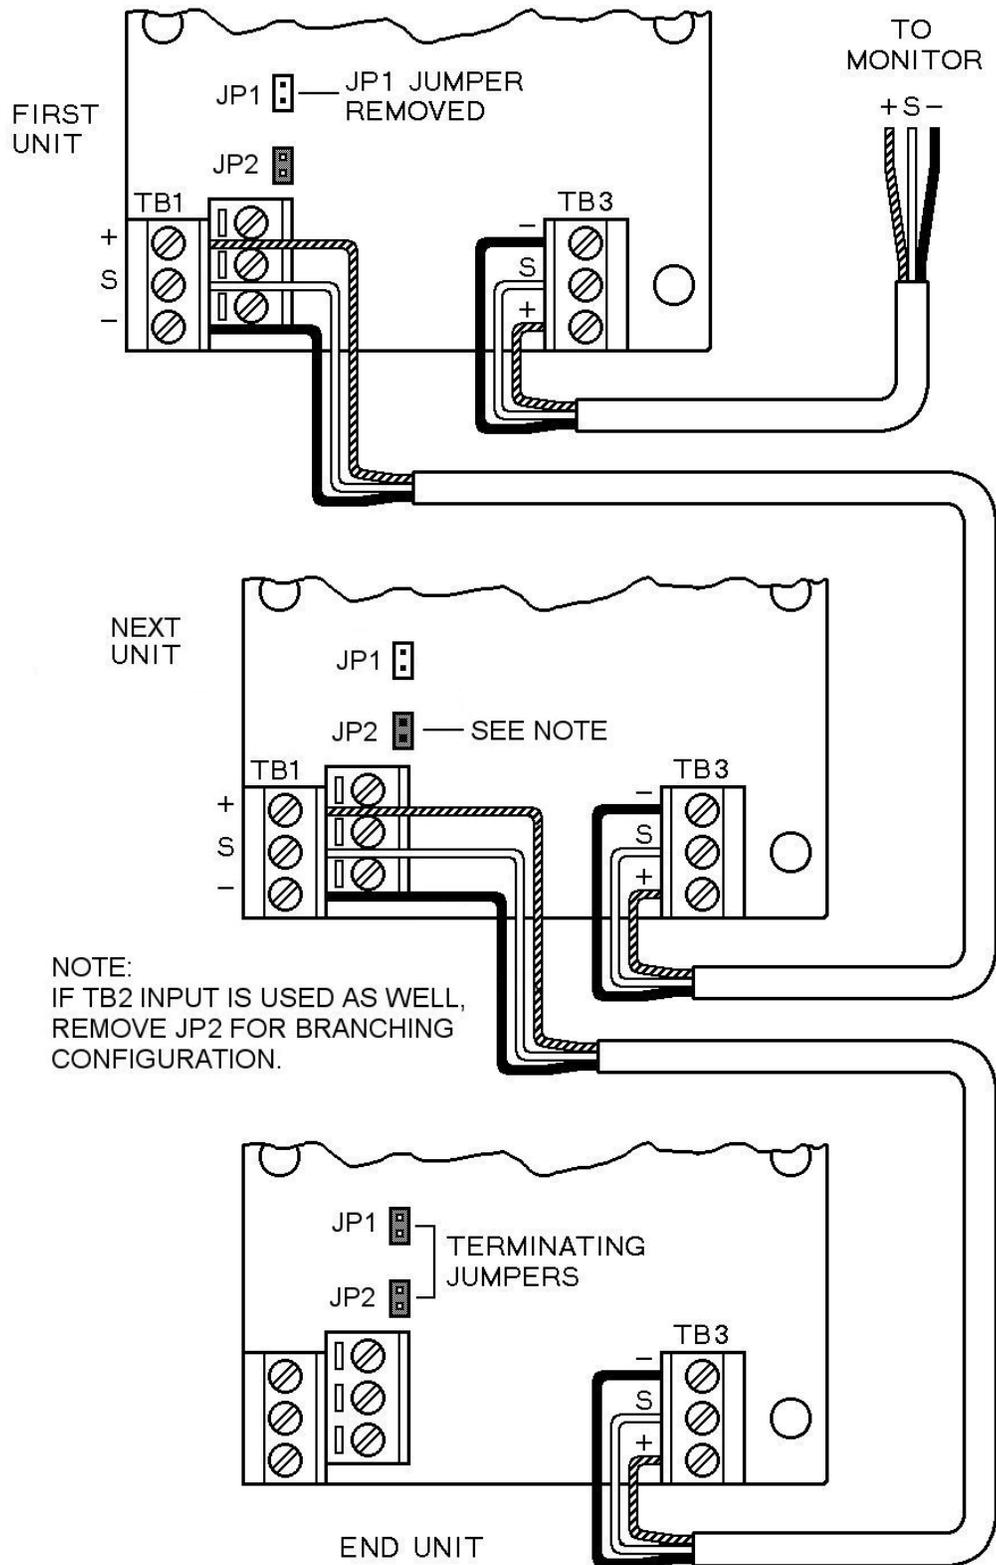

FIGURE 2: Detail wiring of sensor modules.
The AMC-1228 sensor unit provides continuous, reliable surveillance of surrounding air for traces of hazardous gases (listed in section 2.2 FACTORY CALIBRATION, page 4). This unit is designed to allow interconnection in series as in a "daisy chain" configuration (refer to Figure 2) to a single or multi-channel AMC 1AD Series monitor or so equipped inputs of other AMC monitors. A maximum of eight (8) sensor modules can be connected to each zone. The units can also be branched out from the central line allowing maximum flexibility. Each unit produces Low alarm, High alarm and sensor Fail signals, which are transferred from one sensor to the next up the line back to the monitor.
To gain access to the terminal blocks, remove the four (4) screws and front panel from the housing. This will expose the field wiring terminals. The sensor module output (-,s,+) terminal block, connects to the input terminal block of the previous unit, or to the sensor/transmitter terminal block in the monitor, as shown in Figure 2.
Each sensor module is designed to interconnect to other units in series and/or branching configurations. Various typical configurations are shown in Figure 3, illustrating the versatility of this type of system. Because each unit is pre-calibrated, additional units can be added to a system without altering the monitor settings. When multiple units are interconnected, either one or both jumpers need to be removed (refer to section 4.2.2 TERMINATION and Figure 2).
For each unused input terminal block, the corresponding jumper **MUST** be left installed (as shown in Figure 2). Failure to do so may cause the system to malfunction.